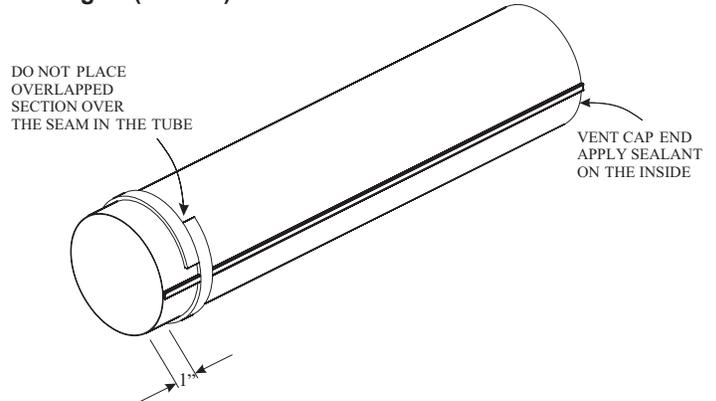

Figure 58
- Seal the 4" (102mm) diameter flue outlet tube. Follow instructions and diagram. See **Figure 58**.
If the air inlet and flue outlet tubes are to be connected directly to the unit (no rigid venting system is being used), then the gasket provided must be used to seal the 4" (102mm) flue outlet tube. Peel the paper off the self-adhesive gasket and then wrap it around the end of the tube (if tube was cut, it is recommended to use cut end) as shown in **Figure 58**. Pull the gasket tight at all times while wrapping it around tube. The gasket ends should align, to form a complete seal. The overlapped section should NOT come in contact with the seam in the tube. Apply high temperature sealant to the opposite end of the tube (on the inside of the tube). The end with the gasket will attach to the back of the unit. Continue with Step 13.